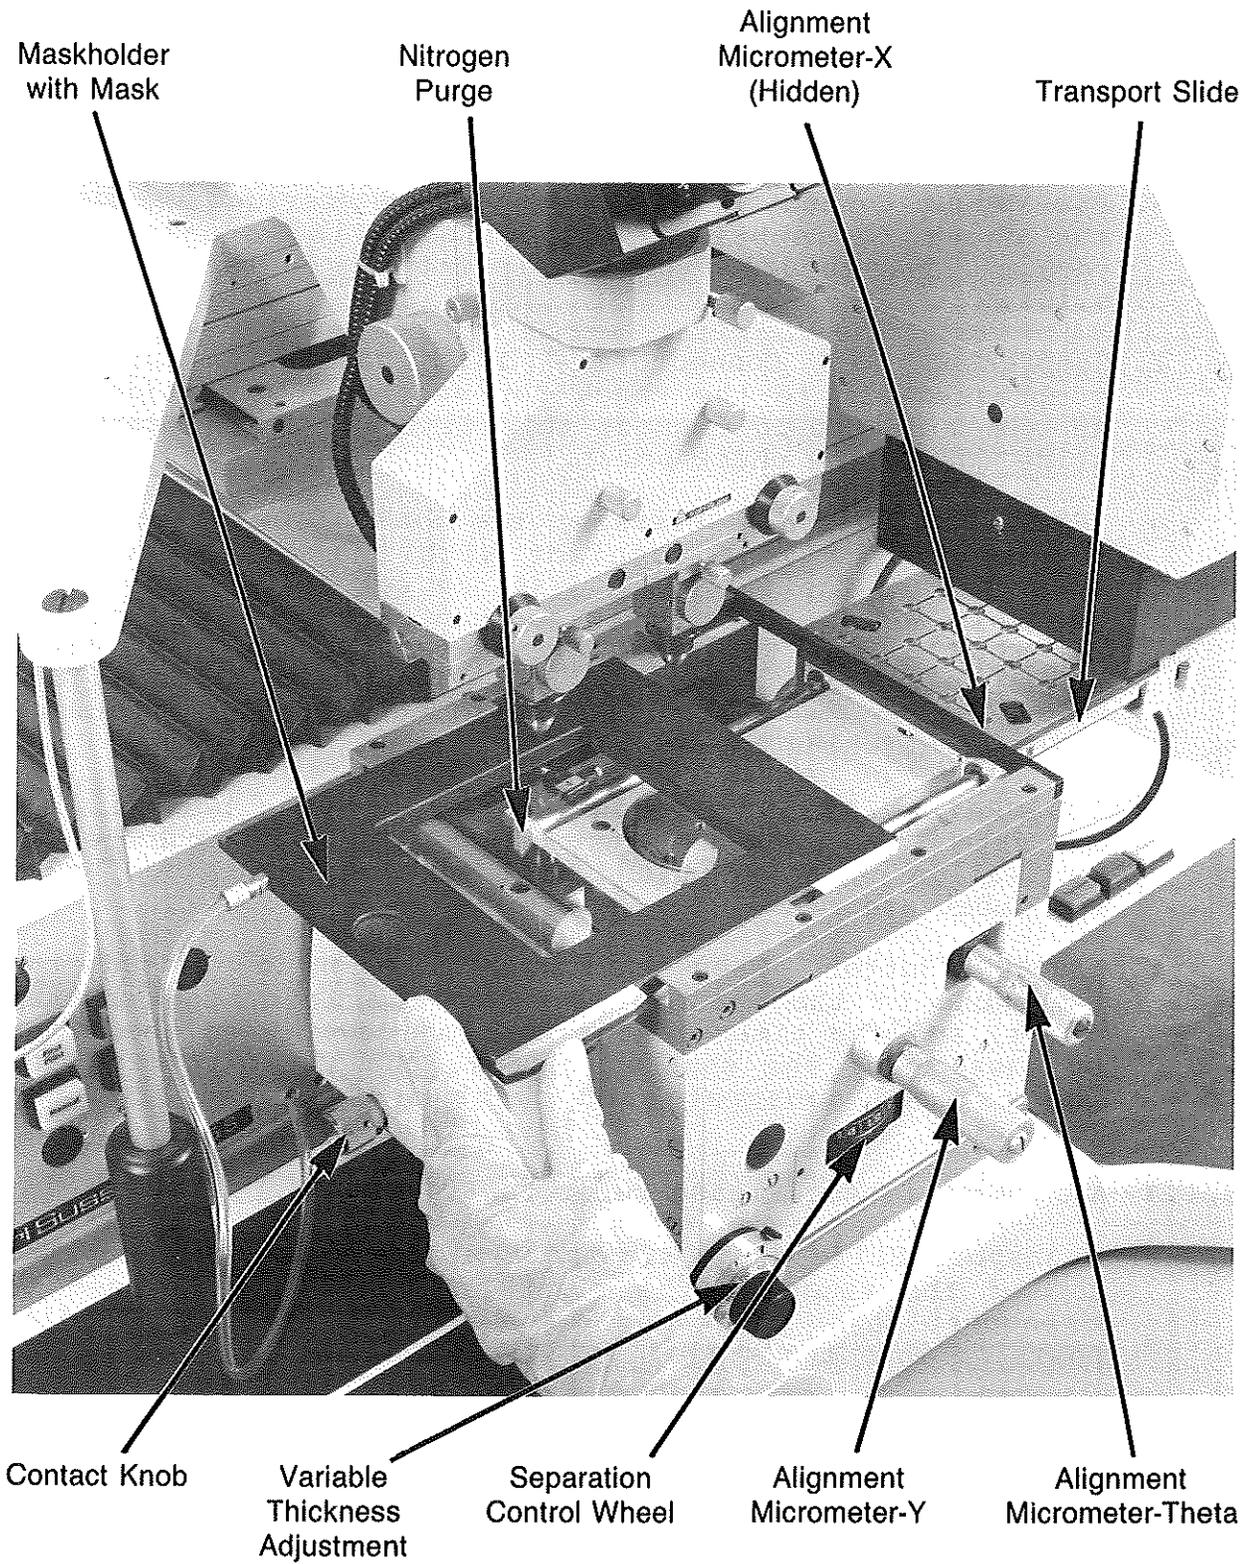

Figure 2-3 Alignment Stage
2.1.3 Alignment Stage (Please refer to Figure 2-3.)